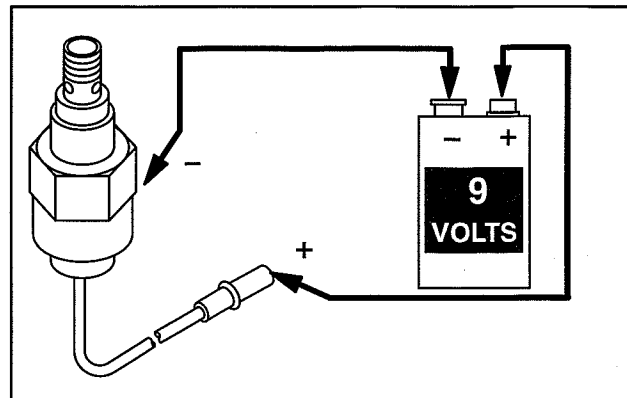

Fig. 149 – Checking Solenoid
2. Place either terminal of a 9 volt transistor battery on the solenoid connector and other terminal on body of solenoid, Fig. 149.